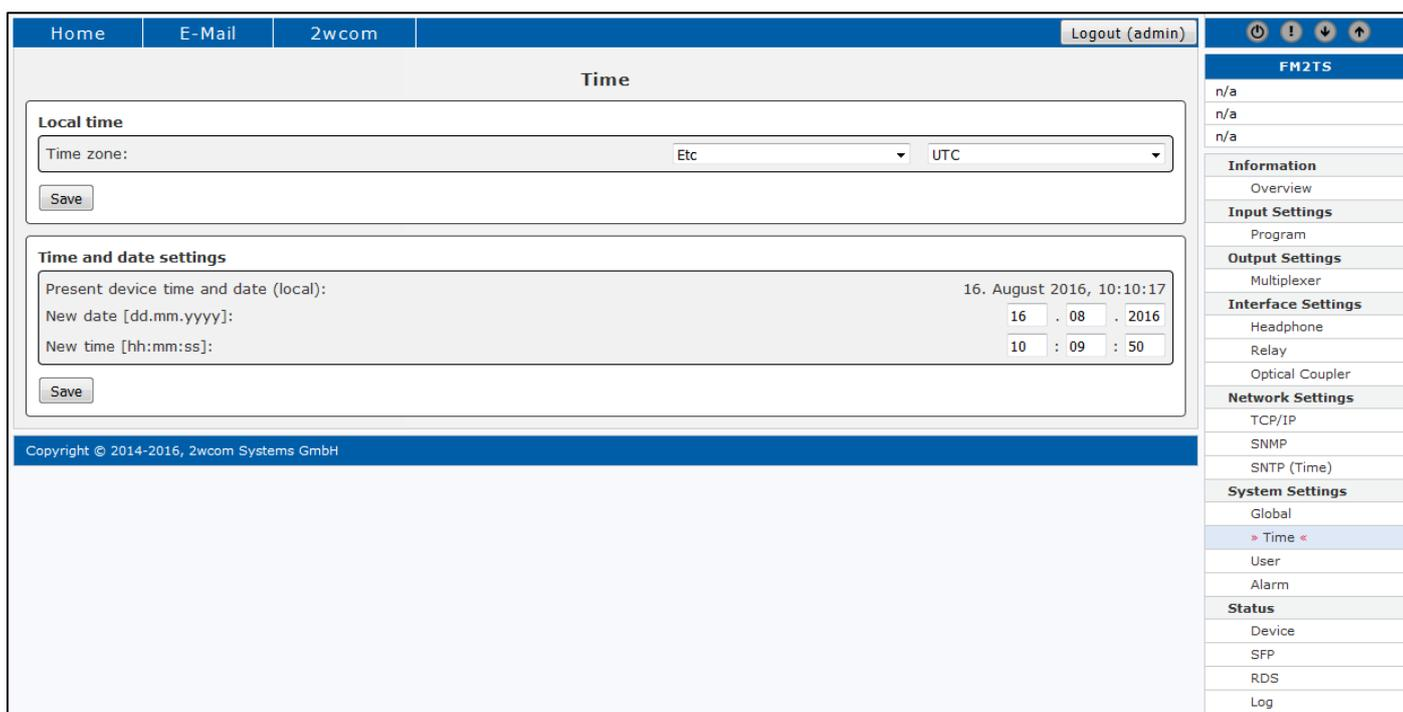

Figure 22: System Settings – Time and date
1. Open the window *Time* under **System Settings**→**Time** (see Figure 22).